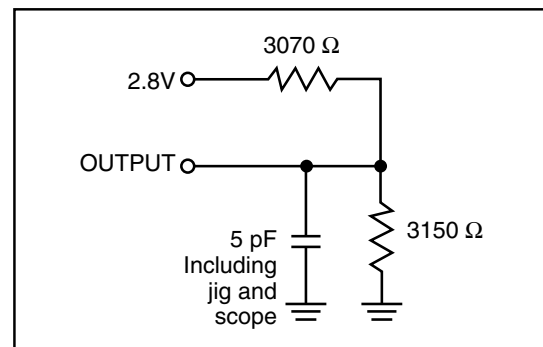

Figure 2
- Tested with the load in Figure 2. Transition is measured  $\pm 500$  mV from steady-state voltage. Not 100% tested.
3. Tested with the load in Figure 2. Transition is measured  $\pm 500$  mV from steady-state voltage. Not 100% tested.